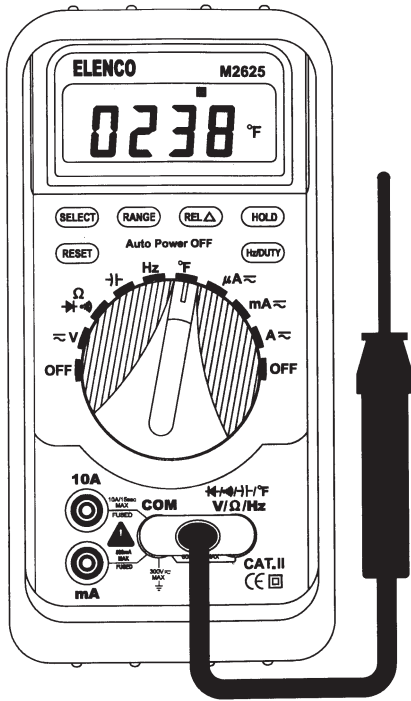

Figure 17. Temperature Measurement
1. Turn on the meter, then set up the meter as shown in Figure 17.